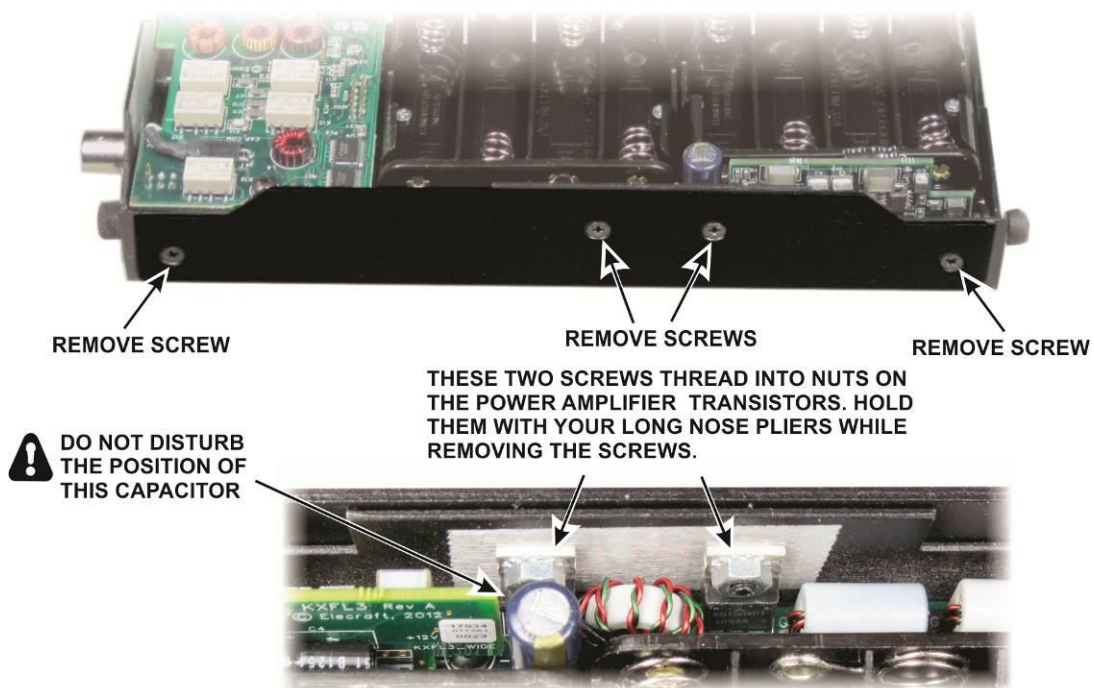

Figure 2. Removing Original Heat Sink.
- Remove the four screws to release the original heat sink (see Figure 2). Note that two screws thread into nuts with captive washers on the power transistors. Hold these nuts with your long nose pliers to avoid dropping them into the KX3. Keep the two nuts with captive lock washers. They will be replaced later. The screws will not be used. Longer screws are provided in the kit to replace them. Set the old heat sink aside. It will not be replaced.